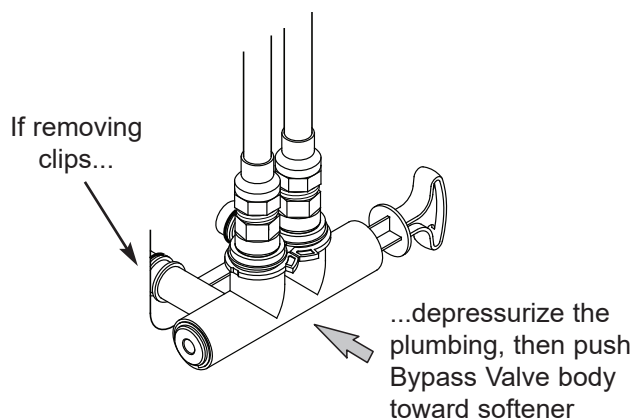

FIG. 14
7. Check for leaks around clips at softener's inlet and outlet. If a leak occurs at a clip, depressurize the plumbing (turn off the water supply and open faucets) before removing clip. When removing clips at the softener's inlet or outlet, push the single bypass valve body toward the softener (see Figure 14). Improper removal may damage clips. Do not reinstall damaged clips.